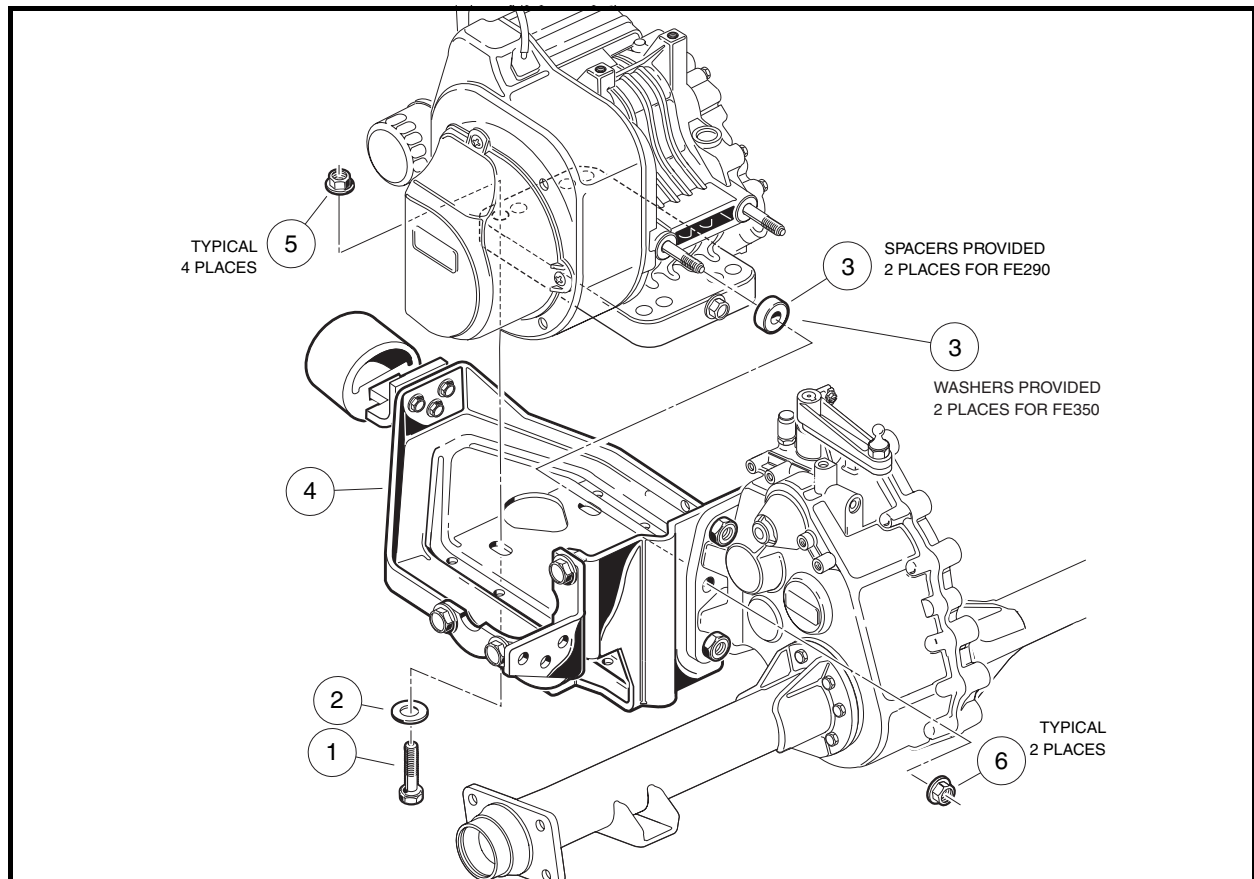

Figure 13-4 Engine Mounting Plate
5. Remove engine mounting hardware (items 1, 2, 5 and 6) (**Figure 13-4, Page 13-4**).
1. Place engine onto engine mounting plate and tighten the mounting hardware (1, 2 and 5) to 13 ft-lb (17.7 N·m). Tighten nuts (6) to 17 ft-lb (23.1 N·m) (**Figure 13-4, Page 13-4**).